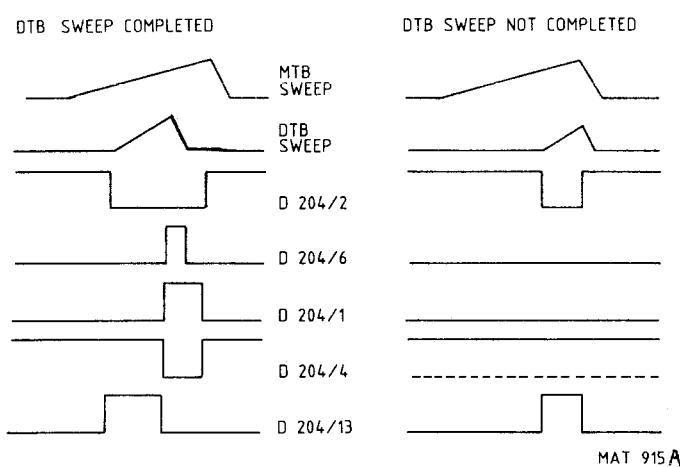

Fig. 2.8. Important voltage-waveforms in the DTB control logic
b) START and STOP of DTB (see timing diagram Fig. 2.8)
The situation described above is valid if the DTB sweep is completed before the MTB sweep (see Fig. 2.8. indicating the voltage waveforms for the DTB SWEEP COMPLETED mode, and also for the DTB SWEEP NOT COMPLETED mode).